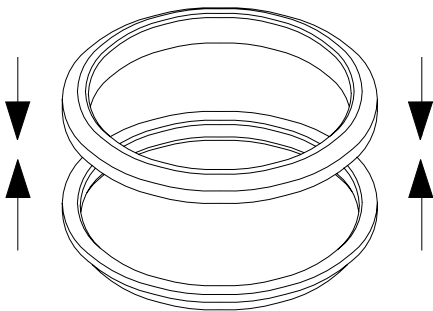

Fig.6-7 Support ring
1. Fit the new seat on the support ring (→ Fig. 6.7).